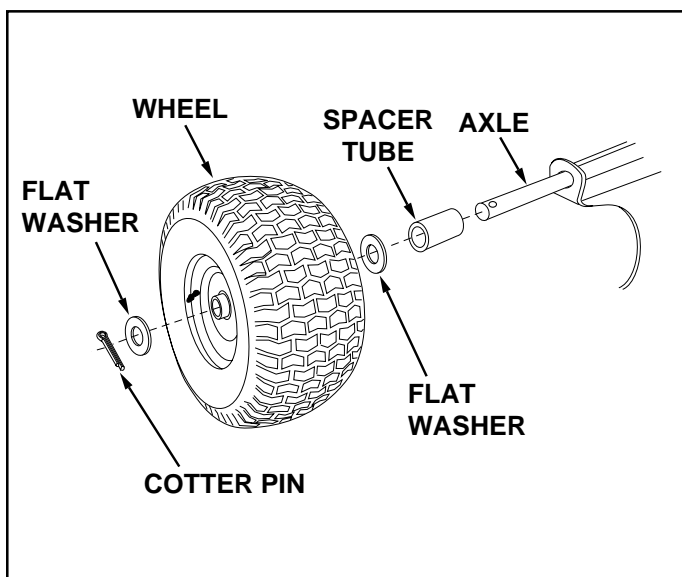

FIGURE 5
8. Assemble a spacer tube, a 1" flat washer, a wheel (valve stem facing out) and another 1" flat washer onto the axle as shown in figure 5. Insert a cotter pin through the axle, spreading the ends. Repeat on other end of axle.